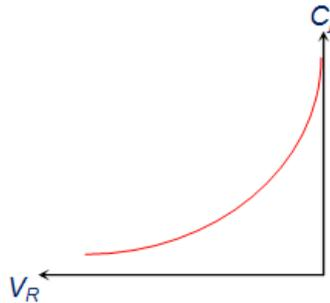

Figure 3 Characteristic Curve of a Varactor Diode
- From the capacitance equation that d is inversely proportional to C . This means that the junction capacitance of the **varactor diode** decreases with an increase in the depletion region width caused to due to an increase in the reverse bias voltage (V_R), as shown by the graph in Figure 3.